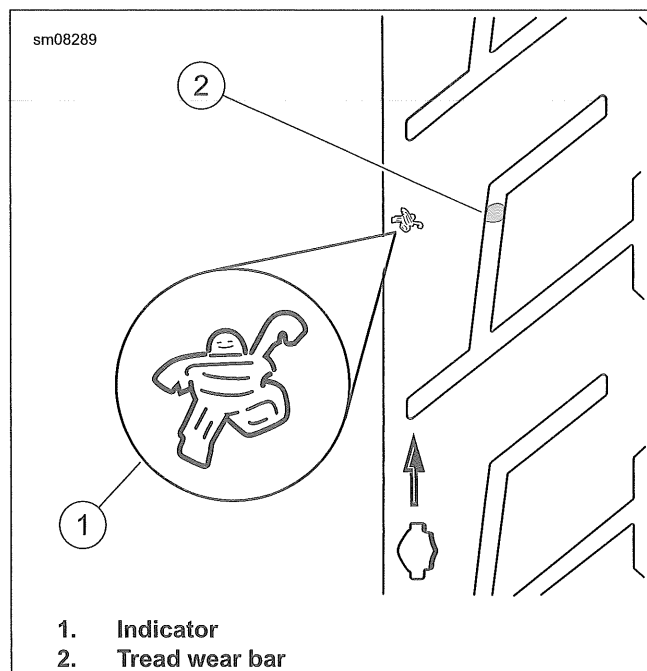
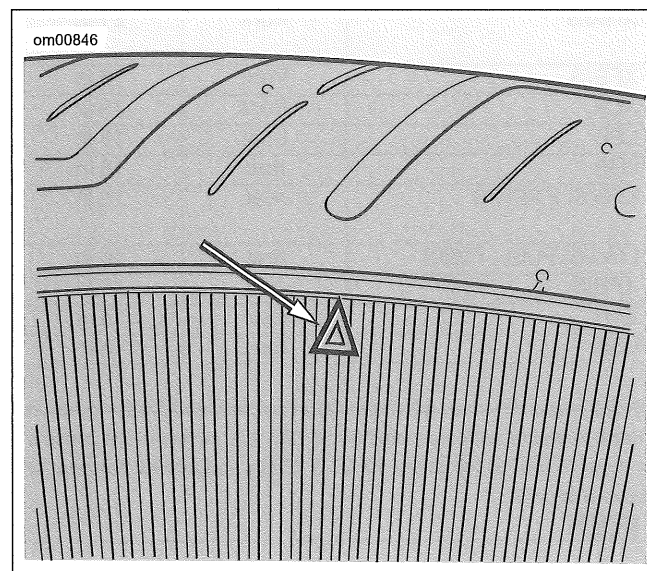
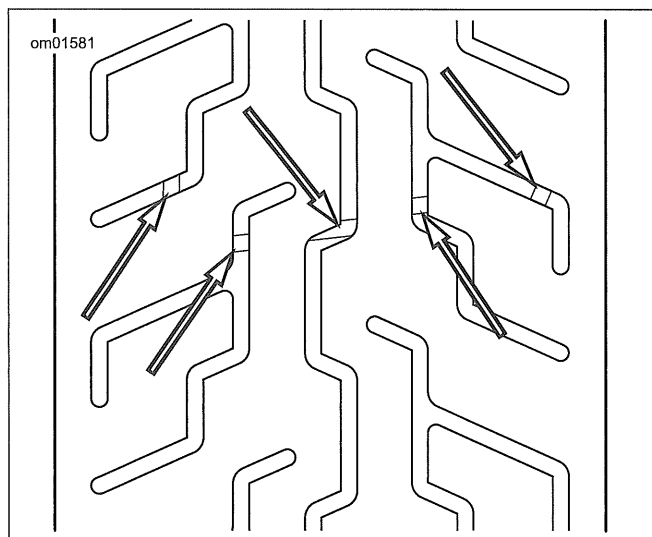

Figure 2-12. Tread Wear Indicator: Michelin Tires
Figure 2-13. Dunlop Sidewall Tread Wear Indicator Bar Locator
Figure 2-14. Dunlop Tread Wear Indicator Bar Appearance
2. See Figure 2-12, Figure 2-13 and Figure 2-14. Inspect each tire for wear. Replace tires before they reach the tread wear indicators.
See Figure 2-12 or Figure 2-13. The locations of tread wear indicators are identified by the marks on the tire sidewalls.